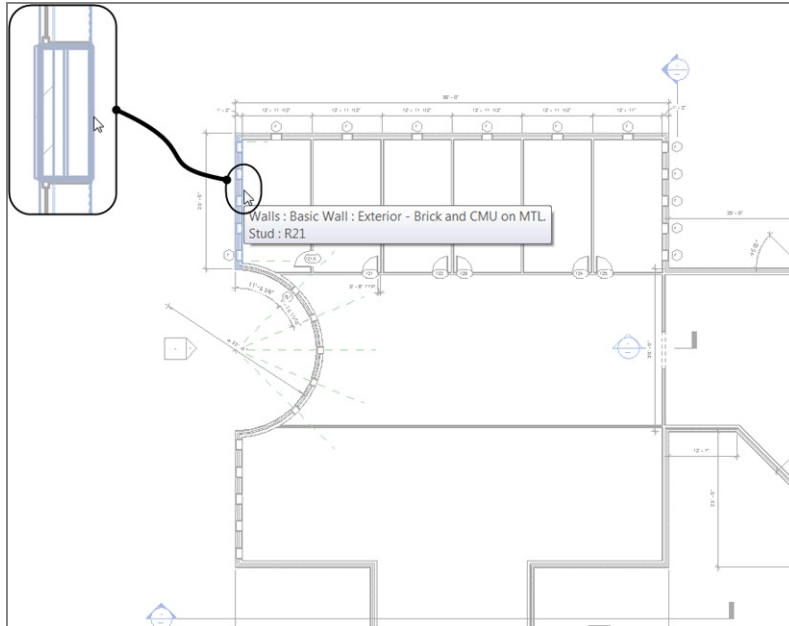

FIGURE 6.9: Picking the inside face of the first wall
3. After the wall becomes highlighted and you're sure you're on the inside of the wall, pick it (see Figure 6.9).